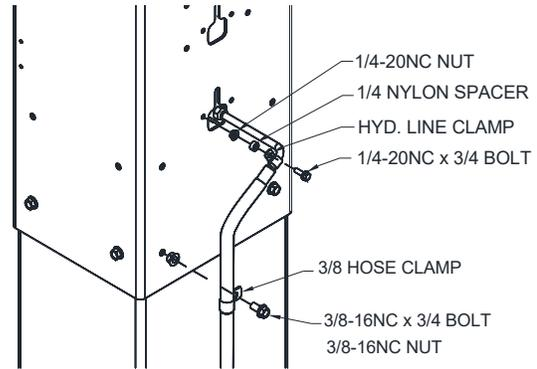

Fig. 14 – Power Unit Hose
- 30) Loosely attach power column hose and overhead hose using the tee fitting (*in hardware box*). Attach power unit hose to power side column extension as seen in **Fig. 14**. Connect power unit hose to tee, **Fig. 13b**, and remove slack from power column hose. Tighten loose fittings and clamps from previous step. Route overhead hose according to **Fig. 13c**.